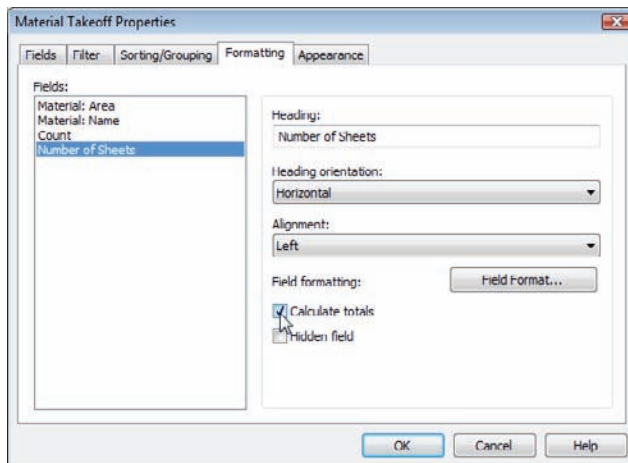

FIGURE 11.36 Selecting the Calculate Totals option
9. Click the Formatting tab, as shown in Figure 11.36.
11. In the Field Formatting section, select Calculate Totals (see Figure 11.36).